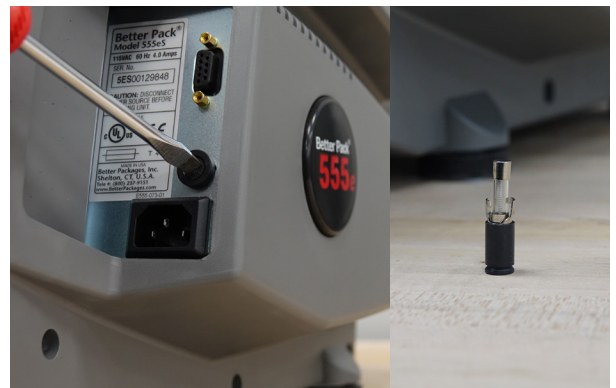

Figure 16-1
1. Unscrew the fuse holder (Figure 16-1) (flat head screwdriver)